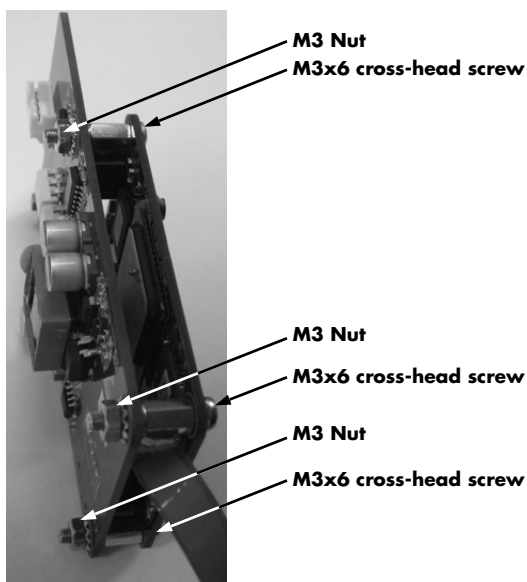

FIGURE 4-28 Remove three (3) M3 nuts, and three (3) M3x6 cross-head screws.
1. Remove the isolation power board by removing the three (3) M3 nuts (as shown in Figure 4-28).
2. Remove the three (3) M3x6 cross-head screws.